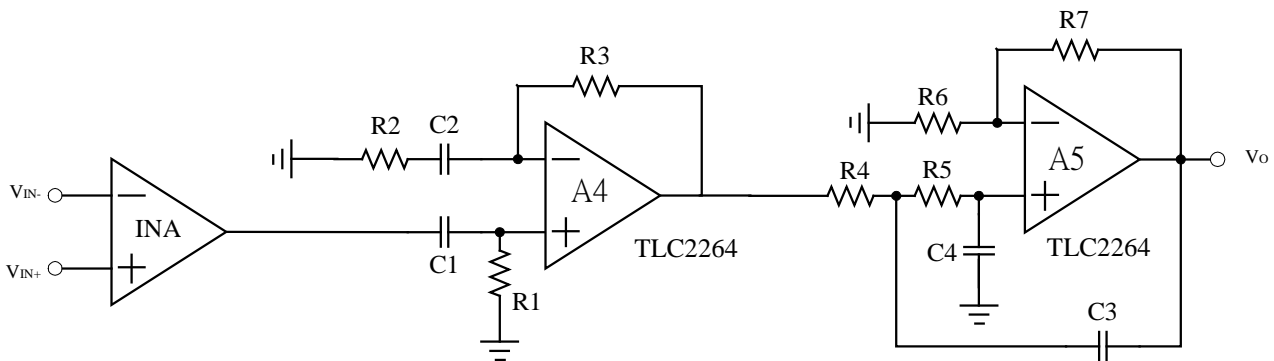
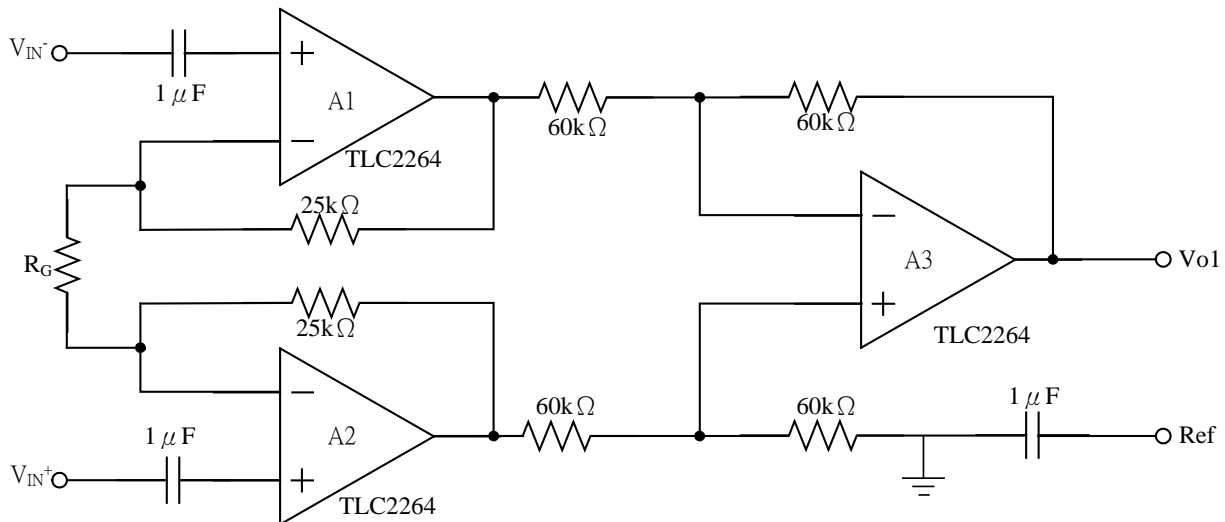

Figure 4: The complete circuit for recording ECG.
Figure 5: The circuit diagram of the instrumentation amplifier.
In this task, you are going to integrate the filters designed in problem II and III to form an amplifier capable of recording electrocardiograms (ECGs), as shown by Fig. 4. An instrumentation amplifier (INA) is added at the front end to remove common-mode interferences. Fig. 5 shows the circuit diagram of INA, where the external R_G determines the voltage gain.
- (1) Design R_G to achieve a voltage gain greater than 6 (V/V) for the circuit in Fig. 5. Apply a 10-mV, 10-Hz sinusoidal signal across the differential input (V_{IN}^+ , V_{IN}^-). Measure the corresponding output at V_{O1} and answer the following questions.